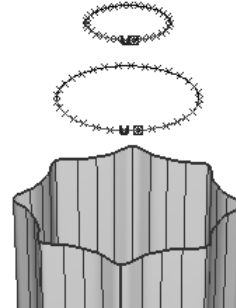

Figure 11-100 Circles created for the neck
1. Choose the **Circle** button from the **Curves** tab in the **Palette** and then create two circles of different sizes at different positions, as shown in Figure 11-100.